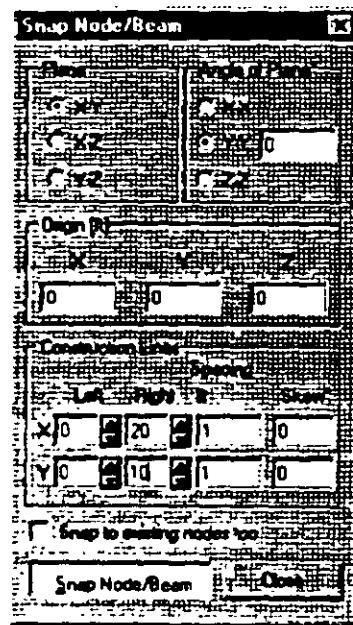

Figure 5.9
7. Select *Geometry / Beam Page* from the left side of the screen. In the *Snap Node/Beam* dialog box that appears in the Data Area (on the right side of the screen), choose *X-Y* as the *Plane* and in the *Construction Lines* group, set *X* to *20* and *Y* to *10* with a spacing of *1ft.* (see Figure 5.9) This *20X10* grid too is only a starting grid setting to enable us to start drawing the structure, it does not restrict our model to those limits as we will see later.